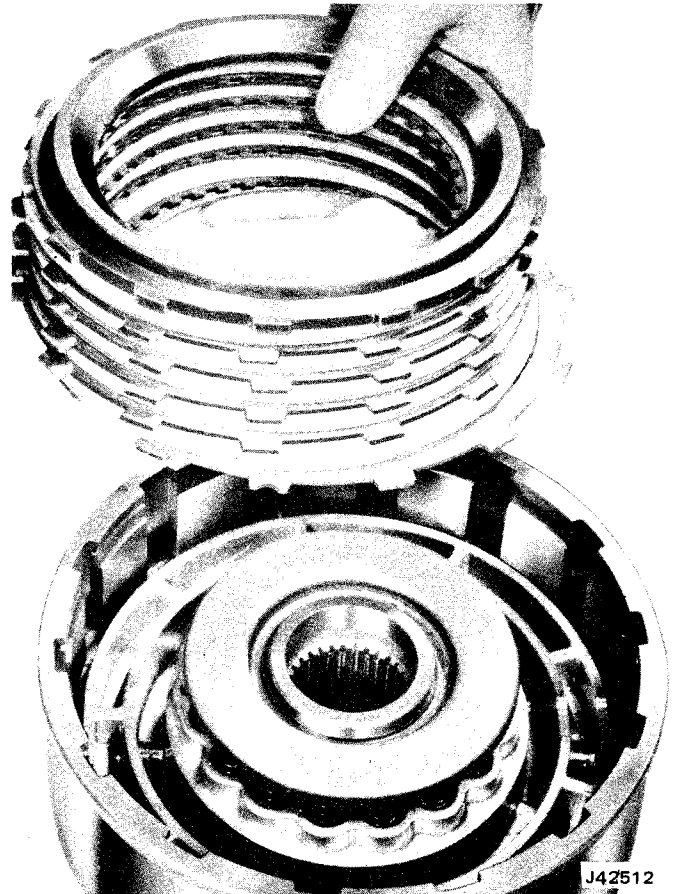

Fig. 2C-94 Direct Clutch Plate Installation
(9) Install waved steel and composition-faced clutch plates. Start with waved steel plate and alternately install remaining composition-faced and flat steel plates (fig. 2C-94).